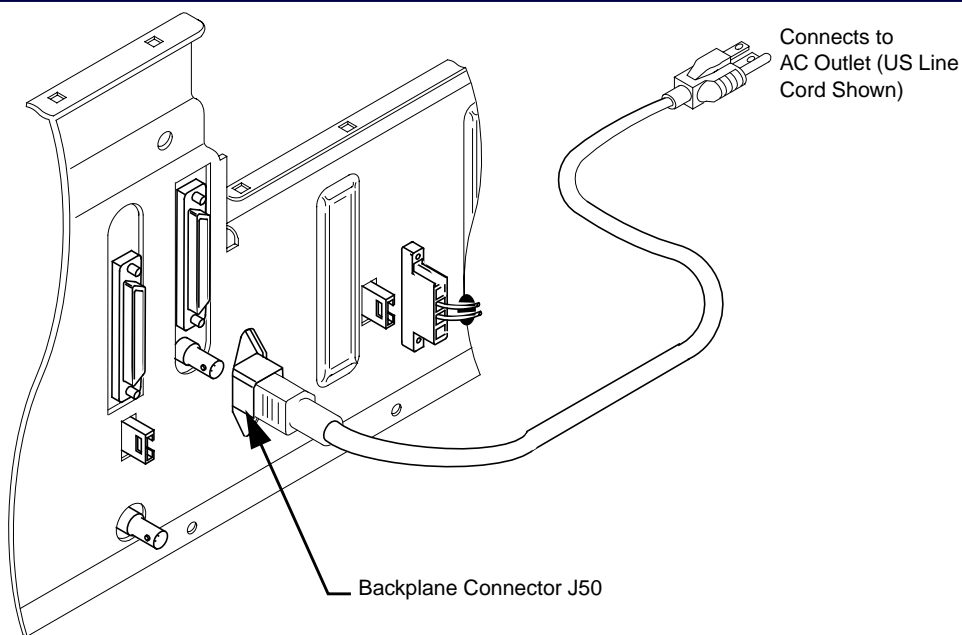

Figure 5-5: AC Power (US 120 Vac Shown)
2. Connect the plug end of each cord to a grounded outlet (see Figure 5-5).